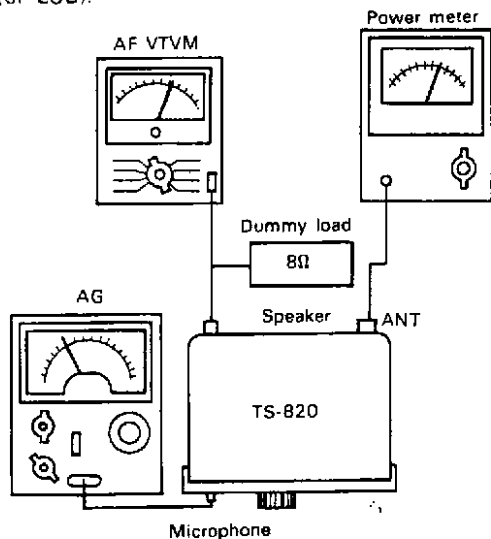

Fig. 38 Adjustment of monitor level
- 1) If Fig. 38, make adjustment until full power is obtained at 14.175 MHz, CW, and set the MODE switch to SSB (or LSB).